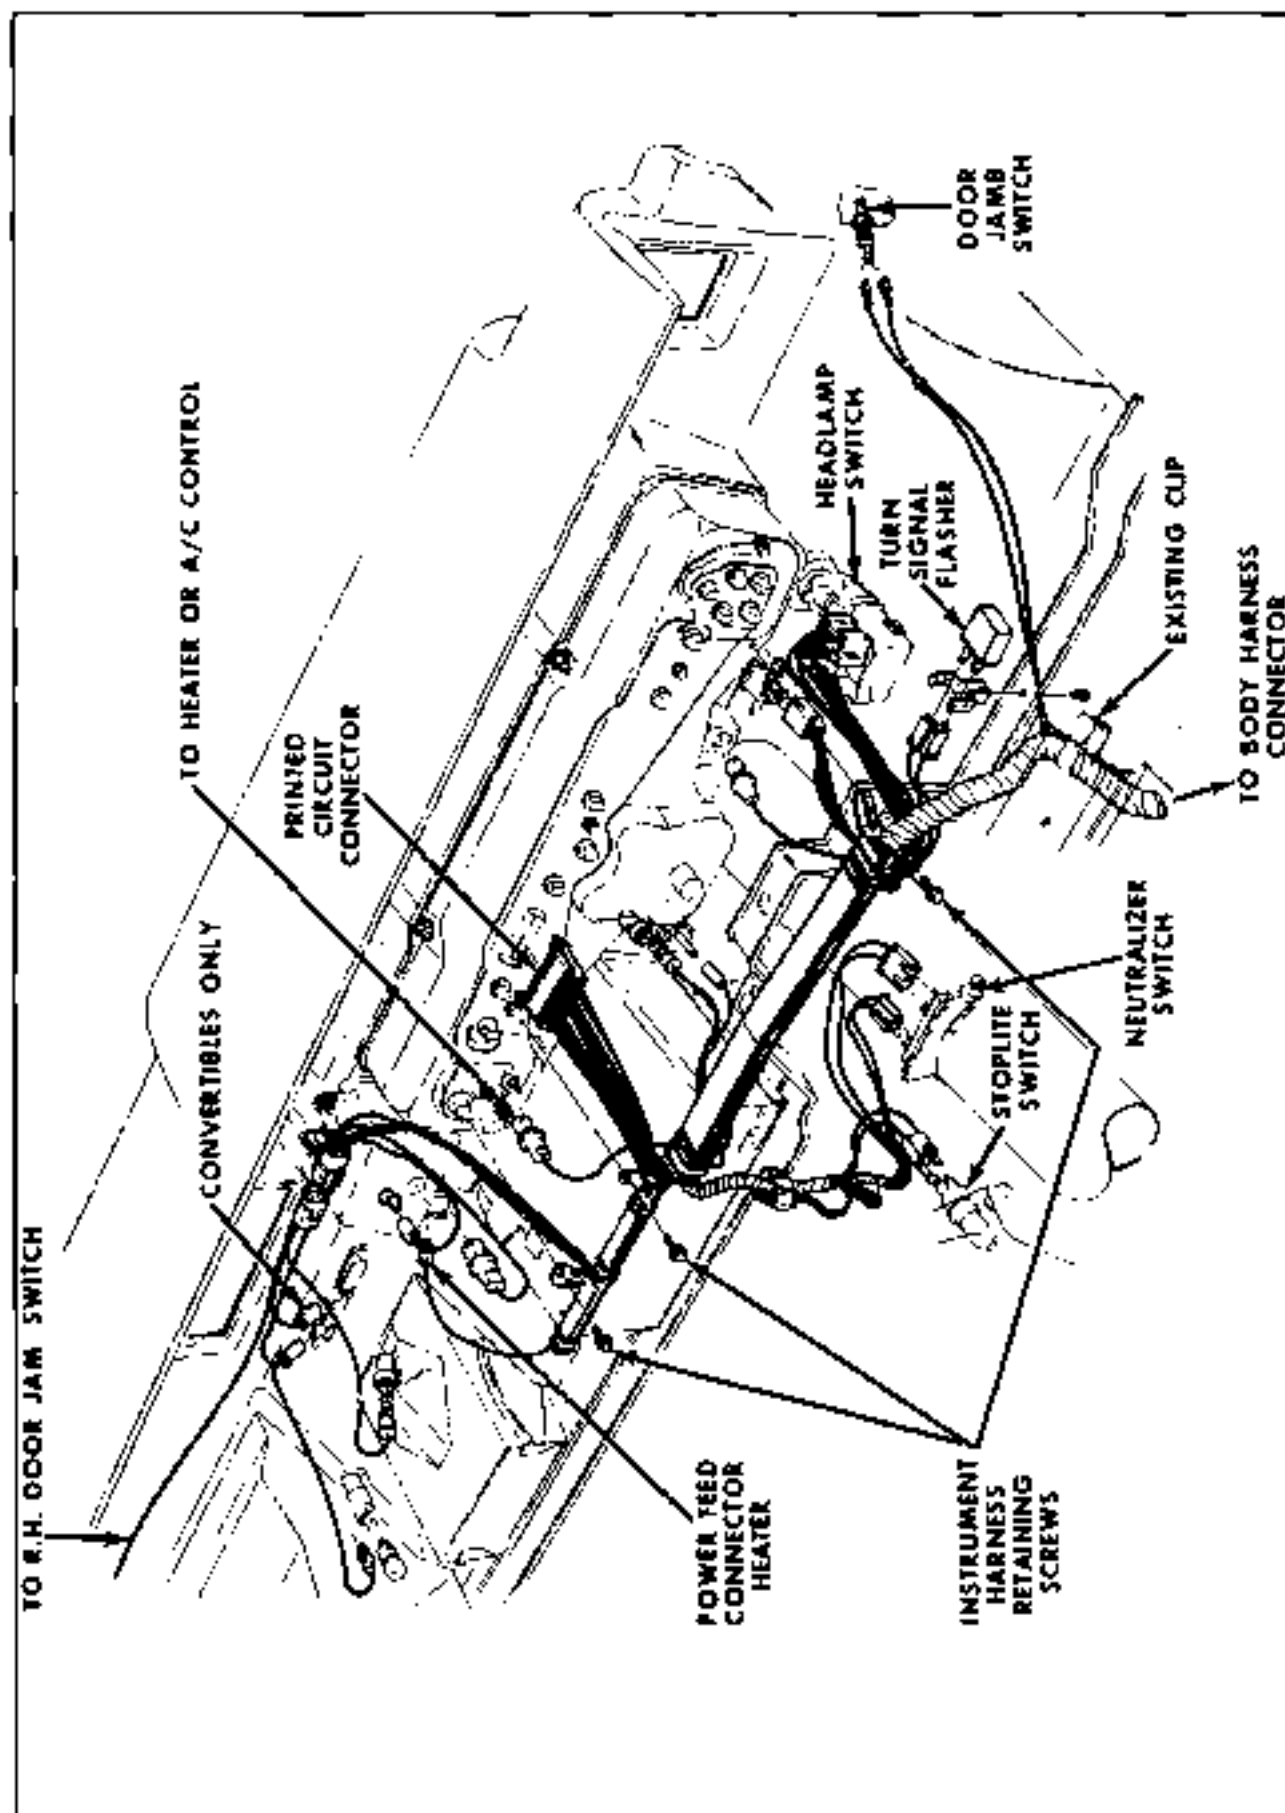

Fig. 12-31 Pontiac Instrument Panel Harness
5. Remove bulbs, screws and nuts retaining printed circuit to instrument panel cluster (Fig. 12-31).